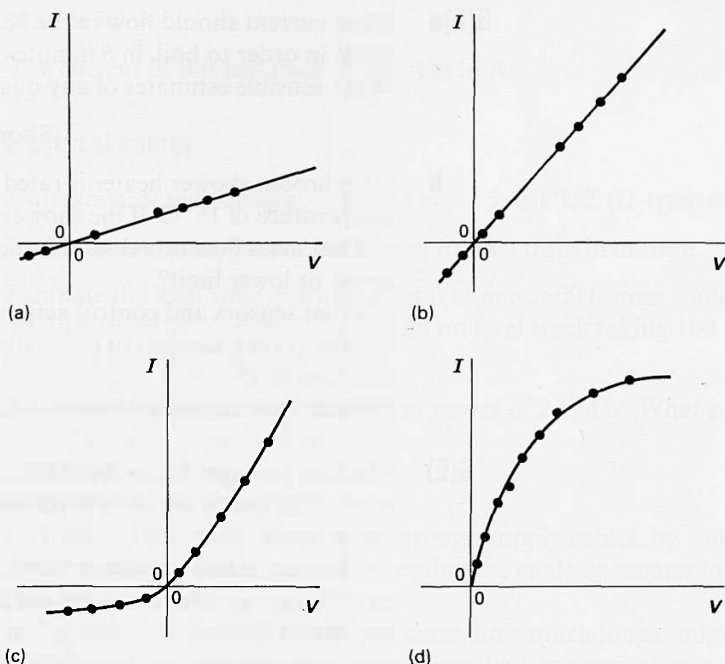

Figure B59
- 7(P)** Figure B59 shows the results of measurements of the current  $I$  through and the potential difference  $V$  across four different electrical components, each concealed inside a box having only two terminals. What can be said about the contents of the boxes, using only the information conveyed by the graphs? The graphs are all drawn to the same scale, even though no markings are shown.